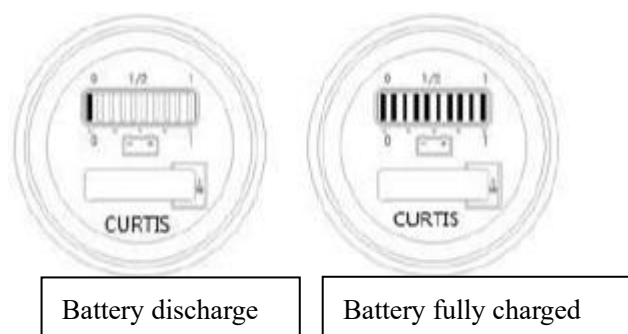

Figure13: Battery discharge display
- Move the handle to the operating area (‘F’ figure 13) .Turn the accelerator button
As shown in Figure 13,The discharge condition is indicated by 10 red LED display segments. The rightmost LED will only illuminate when the battery is properly charged. As the state of charge of the battery drops, the LED lights illuminate in sequence, but only one light at a time.